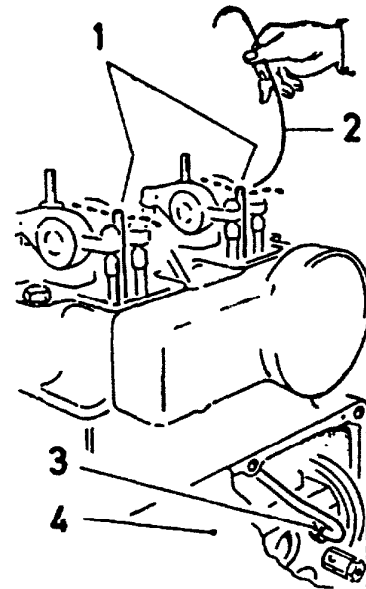

Fig 73
3. If necessary, clean out holes (0.9 mm) with wire or a needle. If sprays fail to operate after cleaning, crankcase cover (4) must be removed (fig 73, item 4) and the valve lubricating pipe (3) disconnected.